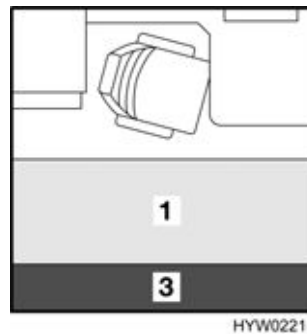

Fig. 97 After conversion
- Insert the back cushion (Fig. 97,3) between the divan cushion and the exterior wall.